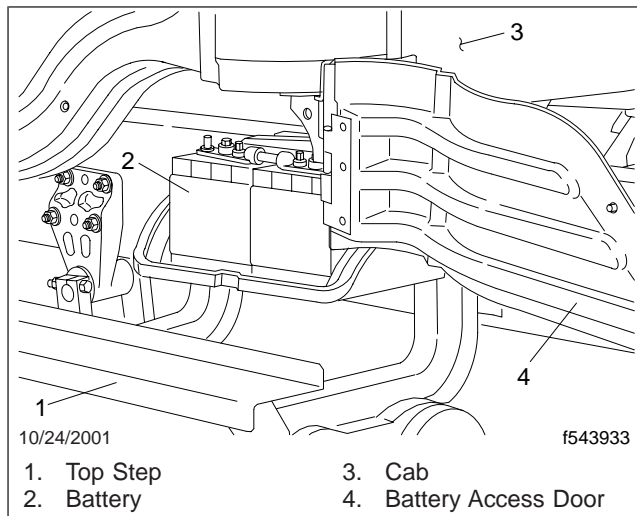

Fig. 13.4, Battery Compartment, Open
2. To gain access to the batteries, open the battery compartment. See Fig. 13.4. For detailed instructions, see Chapter 2.